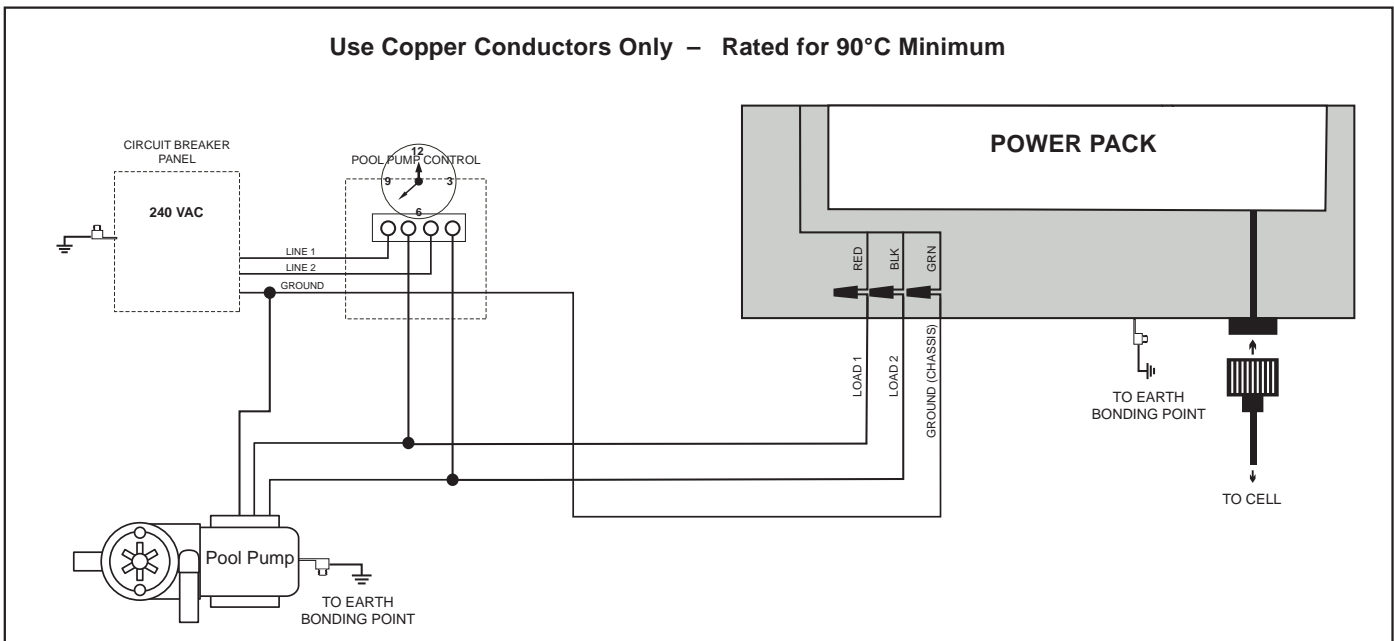

Figure 4. Wiring Diagram
- Wire power pack to pool pump power source using 3.3 mm² (12 AWG) insulated wire and conduit. Wire the power pack to the LOAD side of the filter pump or the LOAD side of the pool pump timer relay so that the chlorinator can only come on when the pool pump comes on (see Figure 4).